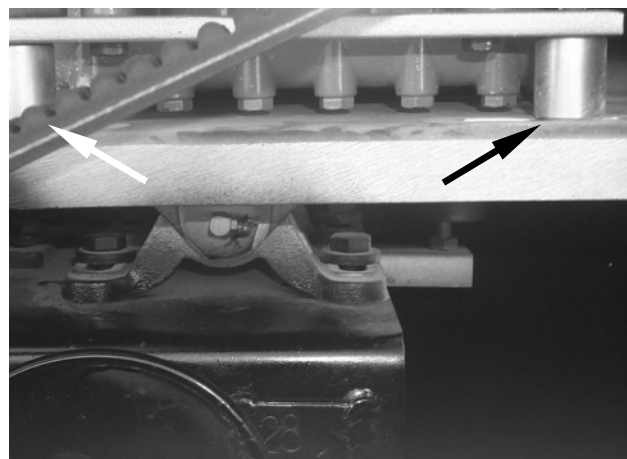

Figure 7: Vertical alignment can be achieved by shimming the appropriate spacers
If the pulley angles are different, shim under the appropriate spacers in order to obtain a correct angle (see Figures 7 and 11, items #5 and #6).
- 1) With the air bellows beneath the compressor base fully inflated (see Figure 7), unscrew and remove the drive belt pre-tensioner (7, Figure 3).